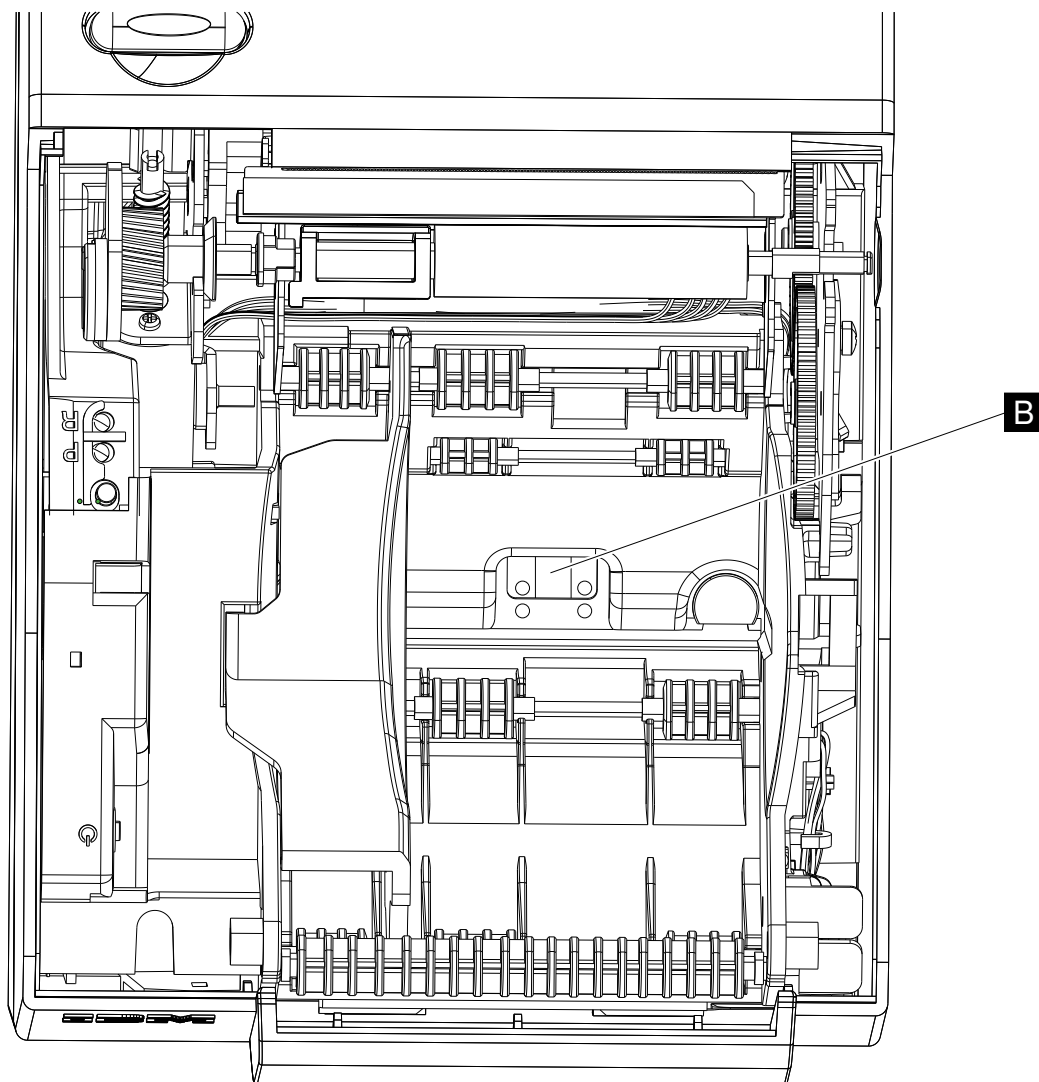

Figure 17. Mount-release button
2. While pushing the mount-release button (**B** in Figure 17) lift (or lower) the printer unit off of the mount posts and hook.